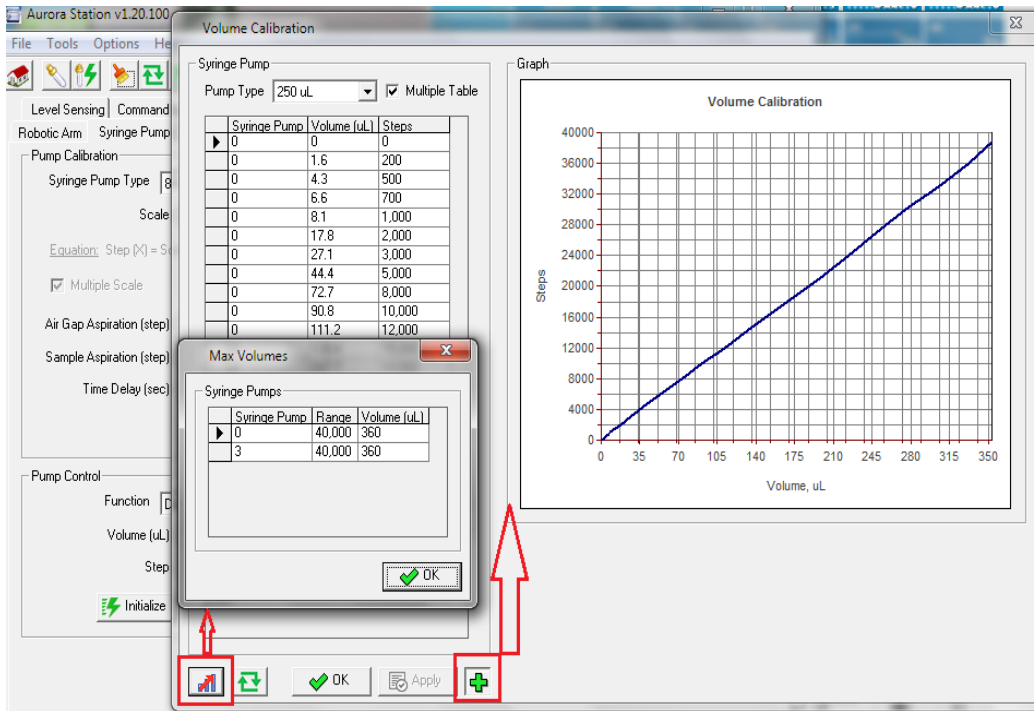

Figure 9-50 Syringe Pump Calibration-Graph & Scale
- 5 After calibration, check the calibration data, and click the green arrow to show the graph (*Figure 9-50 Syringe Pump Calibration-Graph & Scale*). Also check the scale for maximum volume by clicking the icon below the calibration table which will open the ‘Maximum Volume’ window. This window shows the maximum volume of the pump that can be aspirated/ dispensed (*Figure 9-50 Syringe Pump Calibration-Graph & Scale*). Add these maximum volume values in OPTIONS for all the three pumps (*Figure 9-51 OPTIONS-Add Maximum volume*).